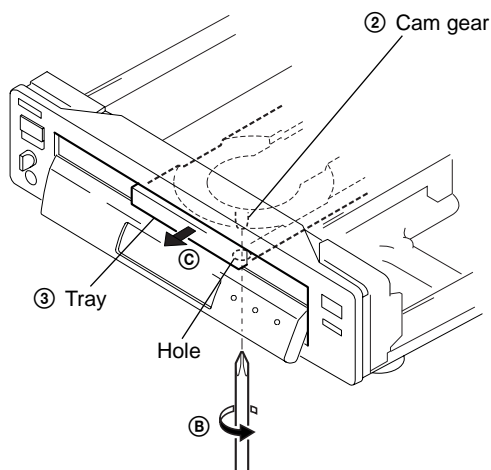

Fig. 2
- 1) Insert a cross-tip screwdriver into a hole at the bottom, and rotate the cam gear ② in direction ②. (See Fig. 2)
- 2) Draw out the tray ③ in direction ③ by hand, and remove a disk. (See Fig. 2)